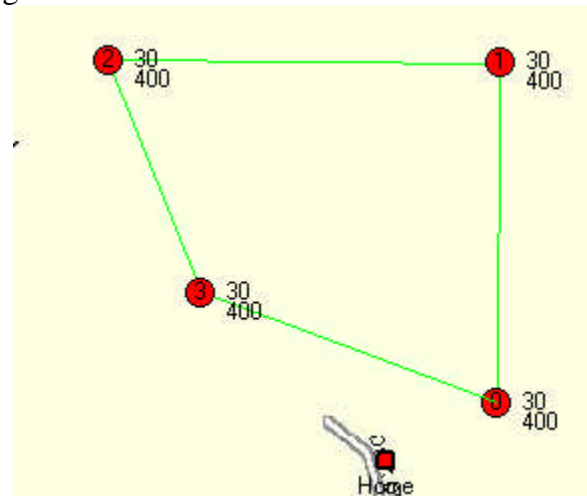

Figure 26. Four-waypoint outline for Paint Plan
- Add and position 4 waypoints that outline the desired area to be painted as depicted in Figure 26.